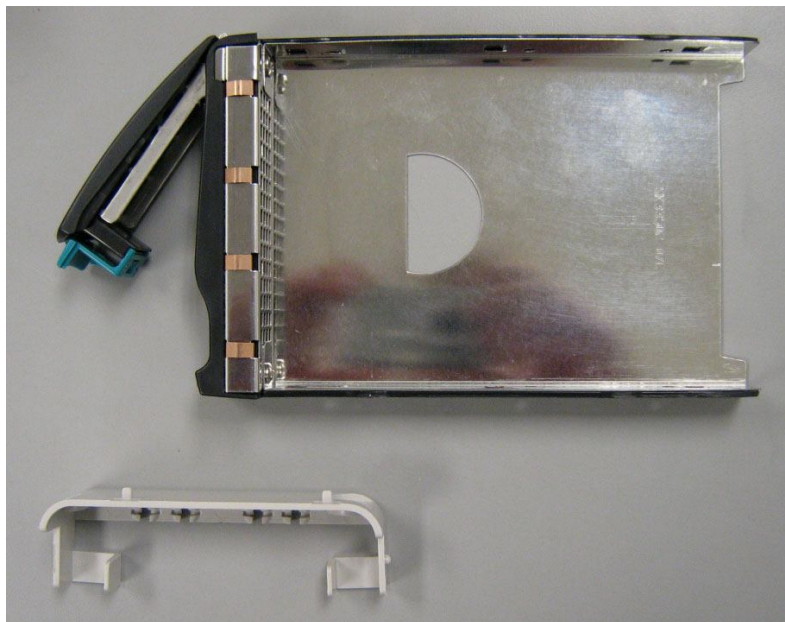

Figure A-10 Tray with Air Dam Removed
2. Your tray should now look like Figure A-10.